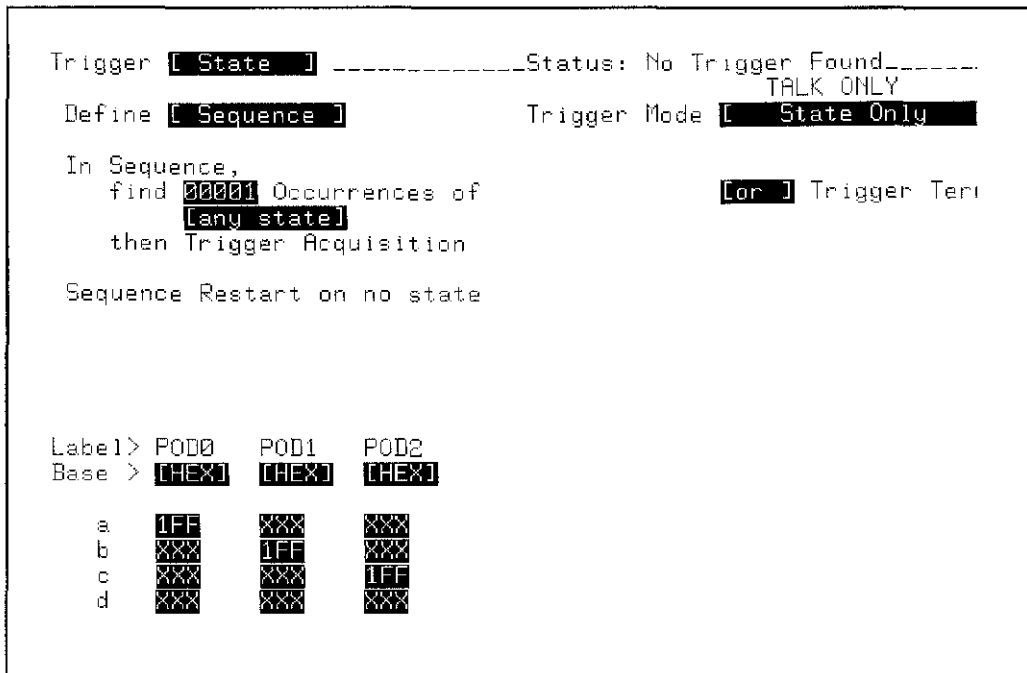

Figure 3-41. TRIGGER State / Define [Sequence] Menu
4. Configure the TRIGGER State / Define [Sequence] menu as shown in figure 3-41.